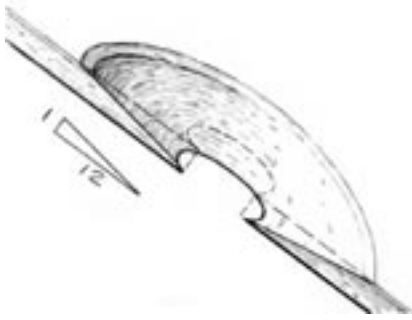

Figure 4-1 Grind a minimum 12-to-1 bevel around the edge of the excavated hole, whether the damage extends partially or completely through the skin.
2. Grind a bevel around the edge of the repair area to create a bonding area for the patch that will ensure the repair is ultimately flush with the surface of the skin. A minimum 12-to-1 bevel is required to ensure the transfer of loads across the repair area (*Figure 4-1*). For example, the hole in a 6mm. thick laminate would require the outer edge of the bevel to extend 72mm from the inside edge of the hole. If the skin is very thin, a longer bevel angle is required.